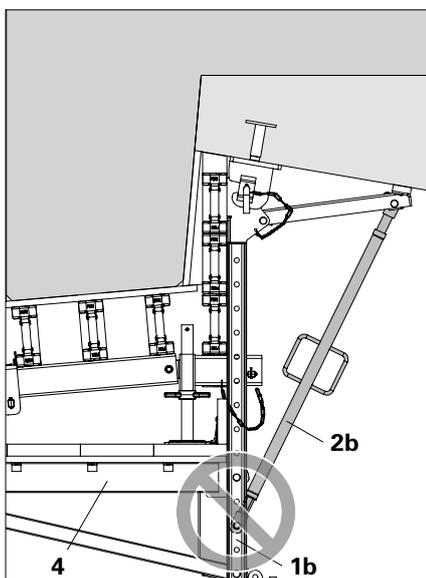

Fig. A4.02c
- Never attach the Kicker AV 111 (2b) between the fixing points of the Platform Cantilever Beam VGK 170 (4). (Fig. A4.02c)